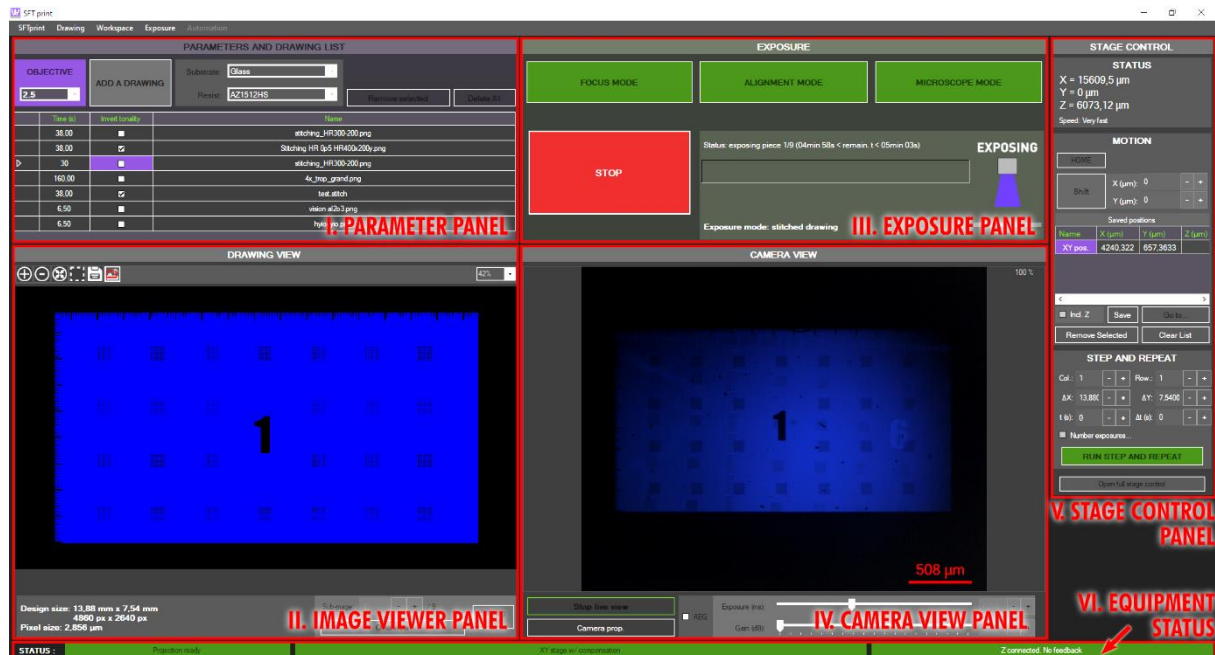
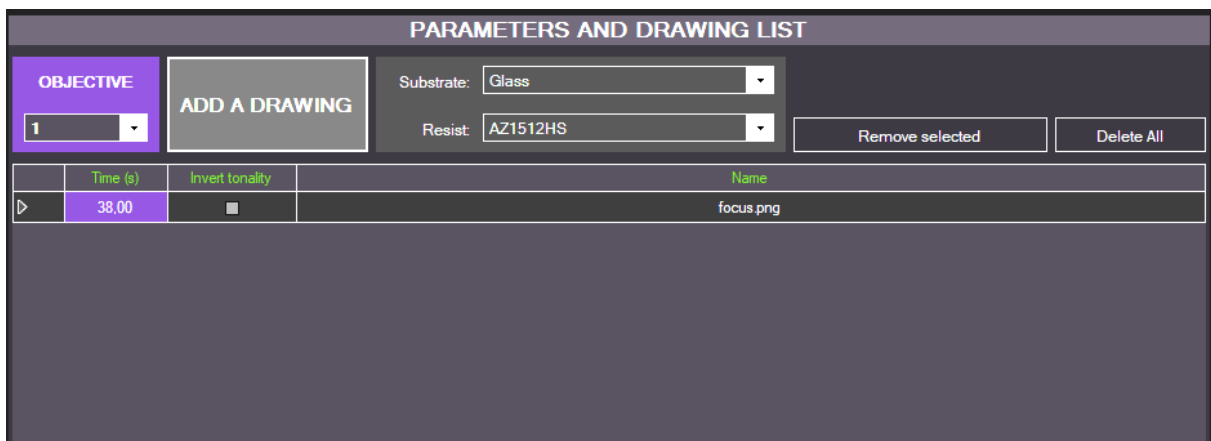

Figure 9 – SFTprint main window
Figure 11 – « Parameters and drawing list » panel
- On the panel **PARAMETERS AND DRAWING LIST** (Figure 9), choose your objective, substrate and resist from the corresponding drop-down lists (Figure 11)
- Click on **FOCUS MODE** in the **EXPOSURE** panel (Figure 9). Ensure that the protection filter is unloaded (Figure 13)
- Load the sample to be exposed, click on **EXPOSE SELECTED DRAWING** (Figure 9) in the **EXPOSURE** panel
- Click on **FOCUS MODE** in the **EXPOSURE** panel (Figure 9). Ensure that the protection filter is loaded (Figure 13)
- Click on **EXPOSE SELECTED DRAWING** (Figure 9) in the **EXPOSURE** panel
- In the **PARAMETERS AND DRAWING LIST** panel (Figure 9), choose an objective, a resist and a substrate in the corresponding dropdown lists (Figure 11)
For each design added in the drawing list (panel I, Figure 11), three parameters are displayed: